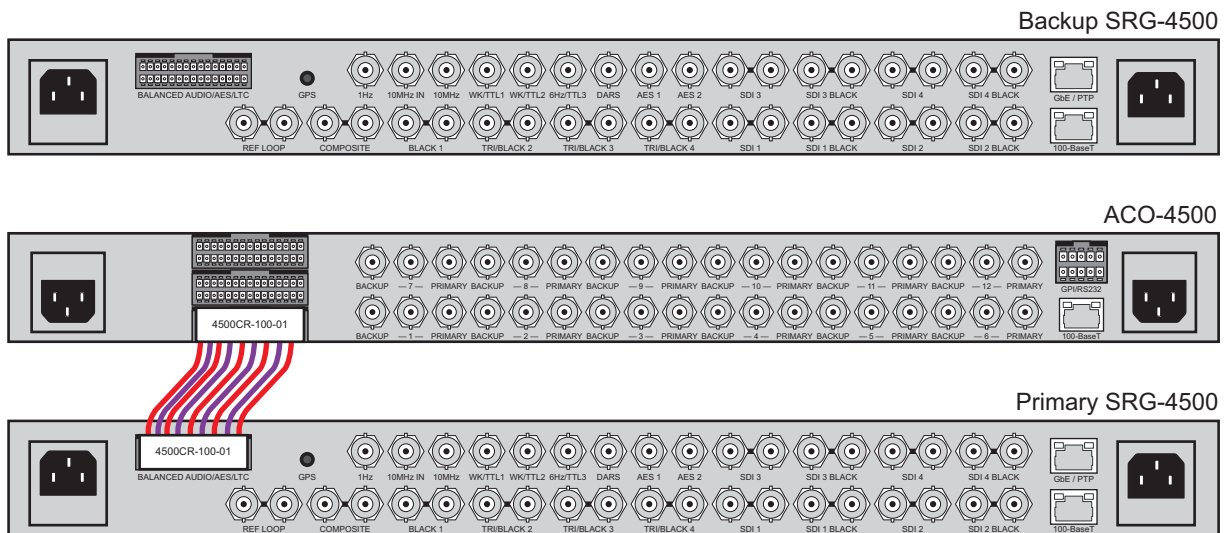

Figure 4.2 Connecting the Primary SRG-4500 to the ACO-4500 Rear Panel
2. Connect the other end of the same Interface Cable to the **bottom** 30-pin Connector on the ACO-4500 rear panel. Refer to **Figure 4.2**.